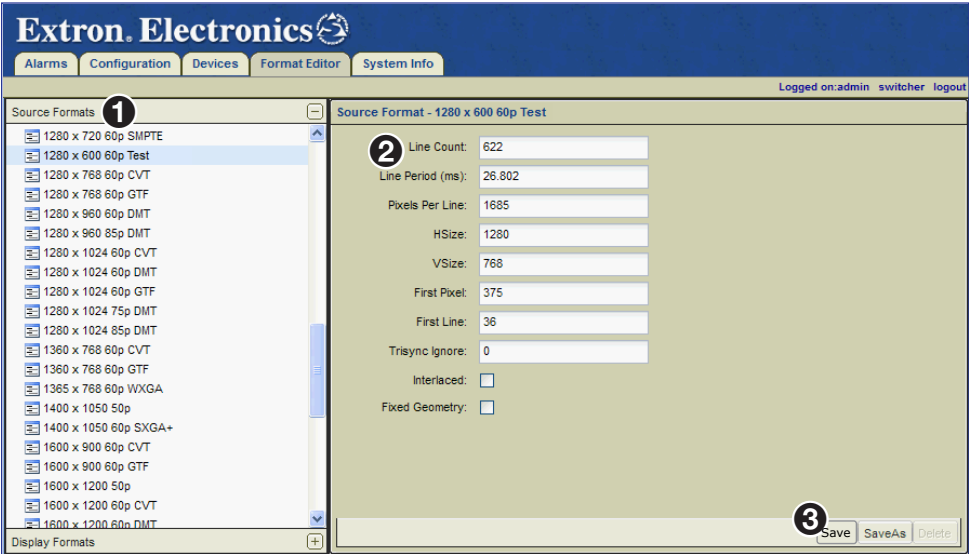

Figure 126. Enter Values Into the Source Format Editor Page
21. Using the format editor located on the right tab, make sure the new source is selected from the Source Formats list (see figure 126, ❶) panel and enter the values from step 20 into the **Line Count** and **Line Period (ms)** fields on the right panel (Source Format - 1280 x 600 60p Test) (❷).